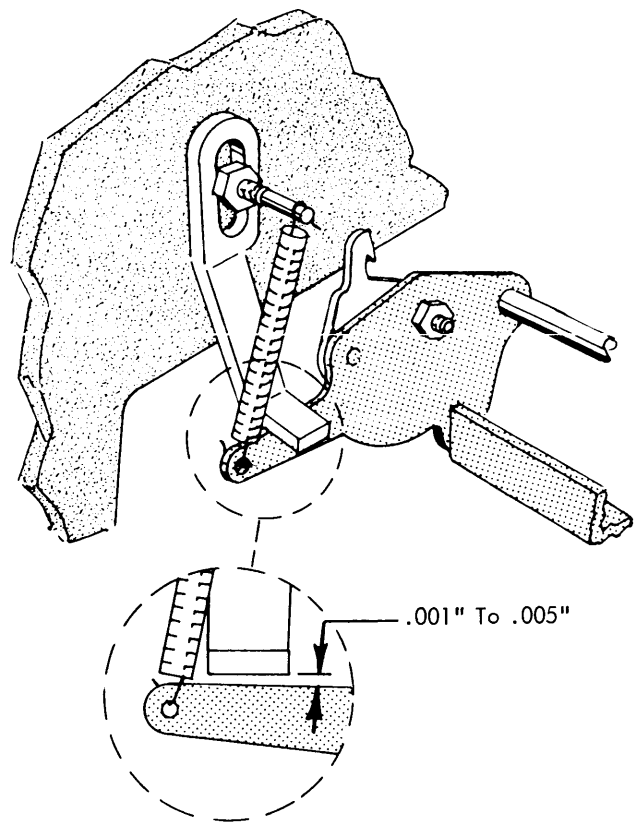

FIGURE 102. Trigger Lever Upstop (Long Carriage Only)
9. Trigger Lever Upstop (long carriage machines) - With the machine at rest and a clearance of .007" to .010" existing between the trigger and the lug on the torque bar, adjust the trigger lever upstop so that it has a clearance of .001" to .005" with the trigger lever (Fig. 102).
On long carriage machines the trigger upstop should be moved up out of the way when making this adjustment. After completing the adjustment the upstop should be adjusted so that it clears the trigger lever by .001" to .005" (Fig. 102).